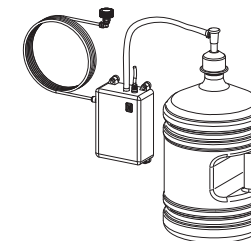

Fig. 4
3.3.2 Stand-alone pump set (fig. 4)